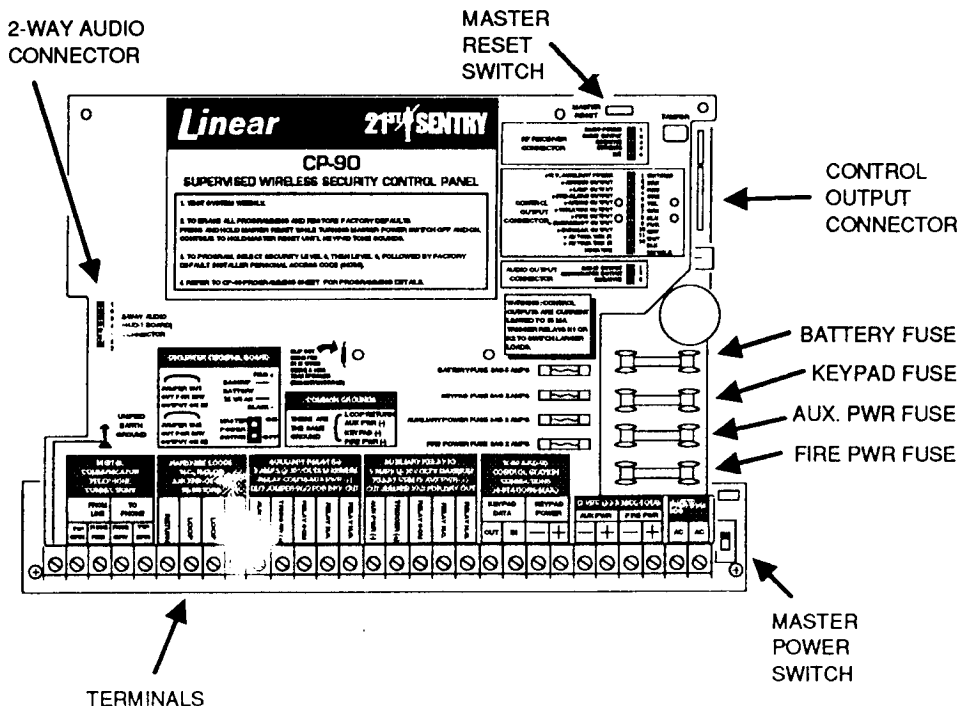

Figure 27. CP-90 Parts Location
- STEP 1** Use a small tool to press and hold down the MASTER RESET switch (see Figure 27).